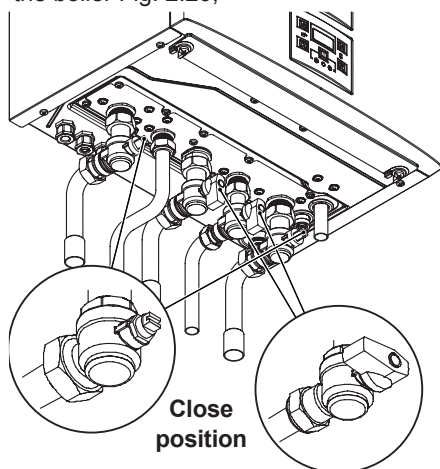

Fig. 2.20
- Shut off the gas supply cock and the valves for the water circuits fitted under the boiler Fig. 2.20;